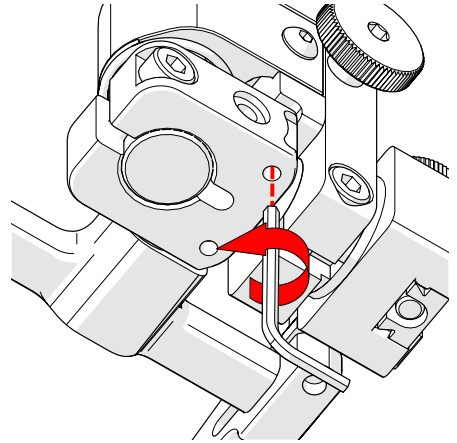

Fig. 53 - Lower 90° stop post
7. Locate the recessed M3 screw (stop post) on the bottom of the probe holder. Unscrew the stop post using a 1.5 mm hex wrench until it has cleared all obstructions. Do not remove the stop post (Fig. 53).